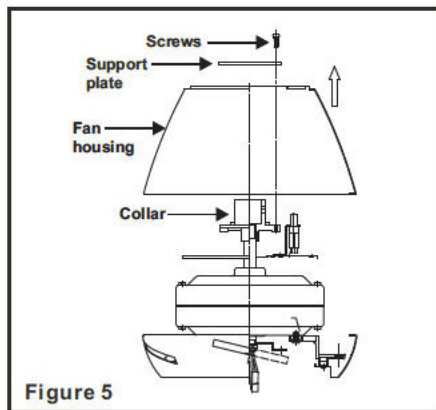

Figure 5
**Step 1.** Remove the top fan housing from the motor by removing the six collar mounting screw with lock washer on the top fan housing. (Fig. 5)